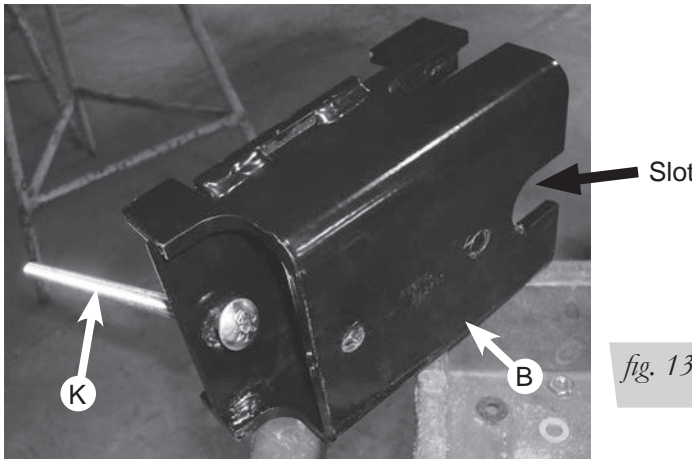

fig. 13
5. Insert the 3/8"-16 X 7" carriage bolts (K) through the lower bracket (B) hole that is opposite of the slot shown in figure 13. Repeat for both lower brackets.